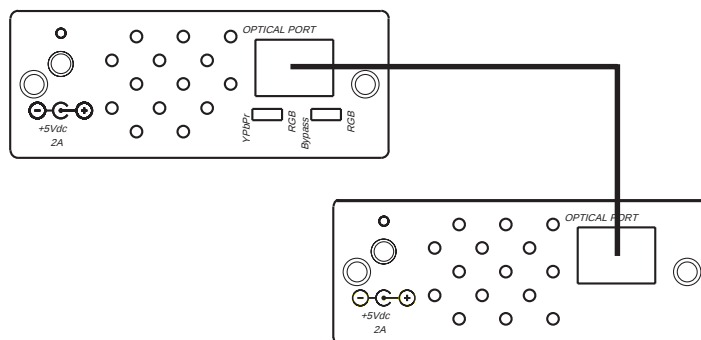

Figure 2-6
3. Connect the fiber from one unit to the other connecting the near end Mini-RGB-AD-T unit's optical port to the far end of the Mini-RGB-AD-R unit's optical RX port as illustrated in Figure 2-6.